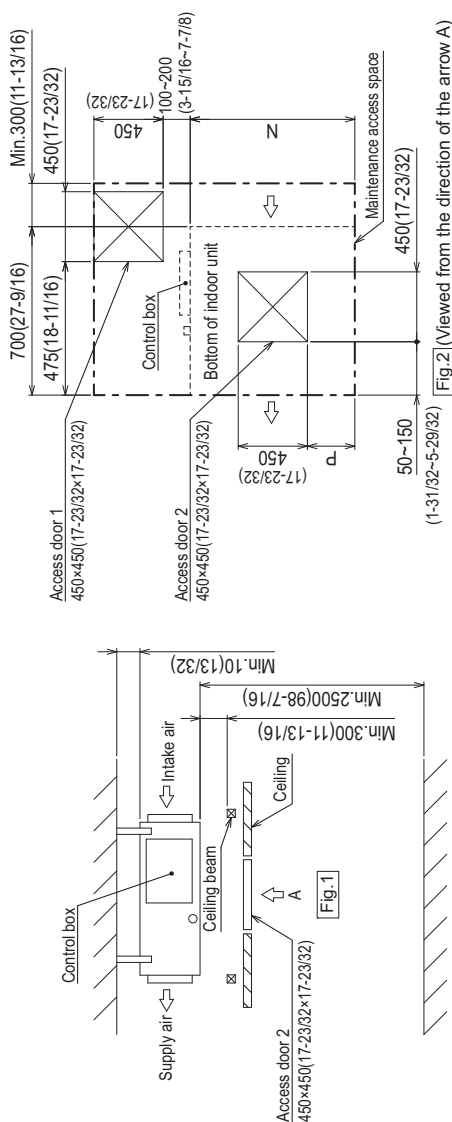

Fig. 2 (Viewed from the direction of the arrow A)
- Create access door 1 and 2 (450×450mm (17-23/32×17-23/32) each) as shown in Fig. 2.